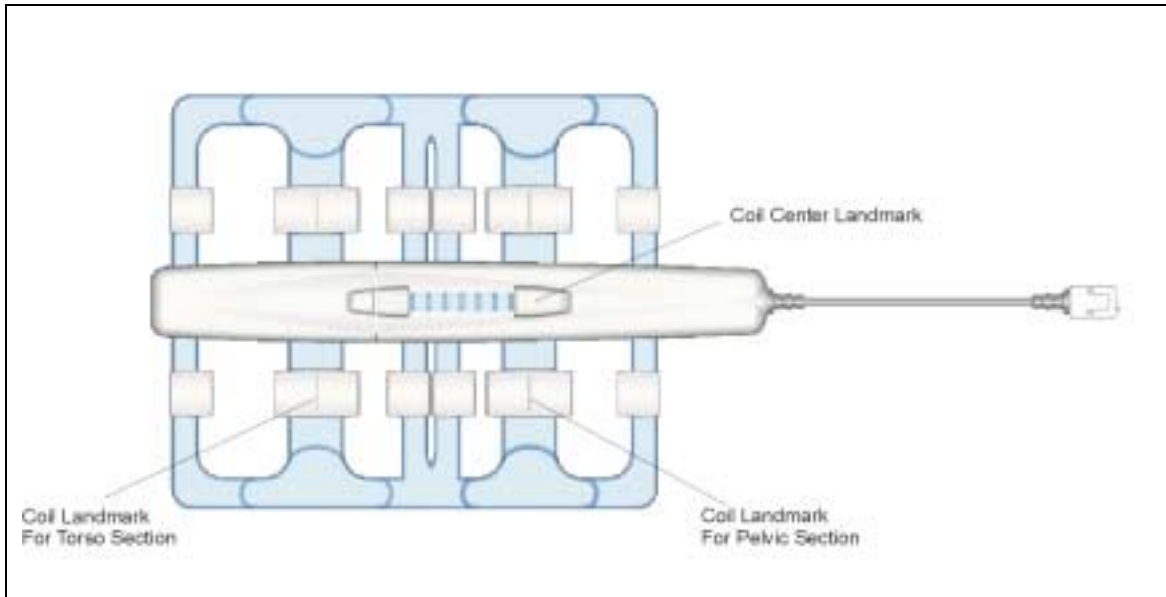

Figure 8: Coil landmarks.
4. At the magnet, press “**Alignment Light**” button to turn on the light. Move the cradle to align the coil to the alignment marks as shown in *Figure 8*. Press “**Landmark**” button to landmark the alignment.